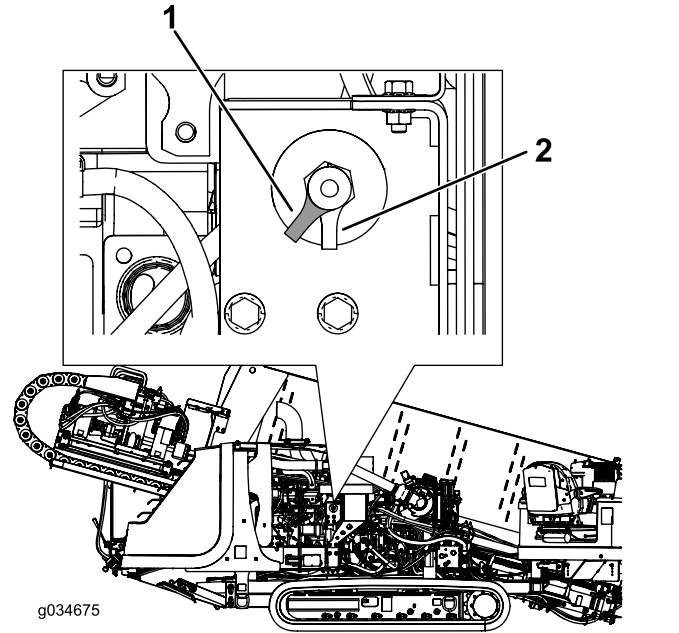

Figure 26
- To energize the machine electrically, rotate the BATTERY-DISCONNECT switch clockwise to the ON position (Figure 26).
- To de-energize the machine electrically, rotate the BATTERY-DISCONNECT switch counterclockwise to the OFF position (Figure 26).